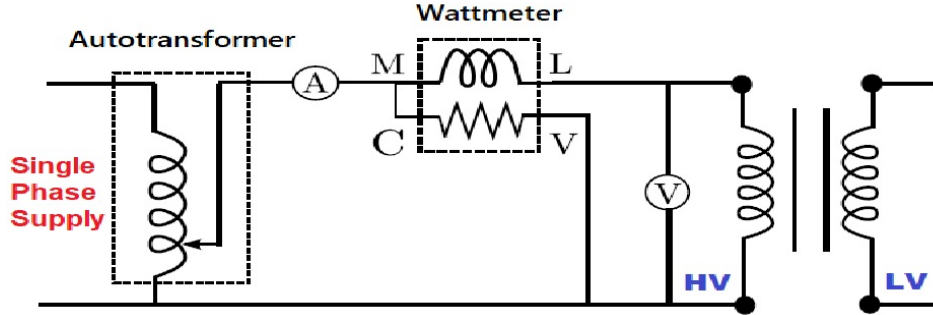

Figure 3: Short Circuit Test on Transformer
This test is carried out to determine the equivalent resistance and the leakage reactance of the transformer. The connections are made as shown in Fig. 3. The LT winding is short circuited. A low voltage is applied to HT side using an auto transformer. This voltage is adjusted so that the full-load current flows through the HT and LT windings. Since low voltage is applied, the iron loss is negligibly small as compared to the copper loss. Therefore, the wattmeter reading gives the copper loss.
- 1) Connect the circuit as shown in Fig. 3.